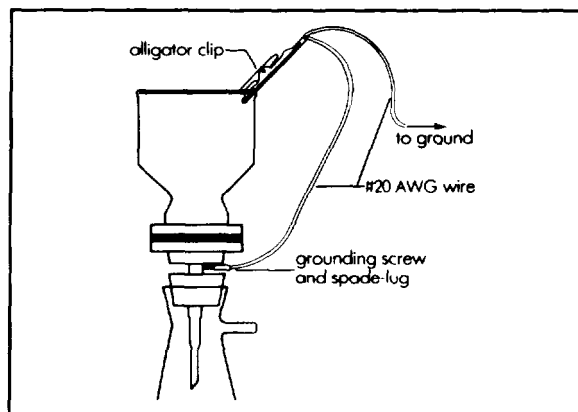

Fig. 5 Grounding Hydrosol Holder
- 1 A Hydrosol Grounding Lead (Fig. 5) is contained with your Millipore Hydrosol Holder. It consists of a length of #20 AWG wire cable fitted at one end with a spade-lug, and an alligator clip at the other. An additional 4 ft. length of this wire cable is soldered to the alligator clip.